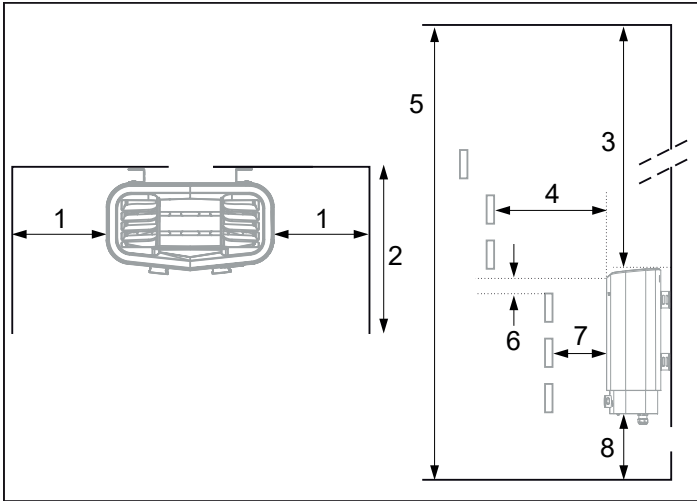

Figure 3: Heater positioning - recess installation (minimum permitted volume 4 m³)
- on the same wall as the door (in exceptional cases it can be installed on the side wall, provided it is very close to the wall with the door). The heater may also be installed in a recess (see Figure 3).
Position the heater at a safe distance from the floor, side walls and interior fittings (see Figure 3).